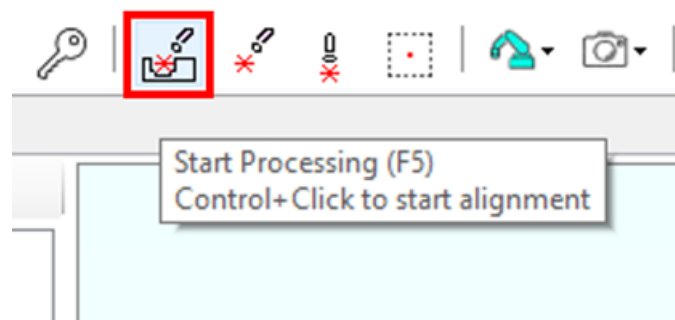

Figure 294: Opening the Alignment Window
3. Hold ctrl on the keyboard and click (ctrl + click) the "Start Processing" button. See Figure 294 (below).